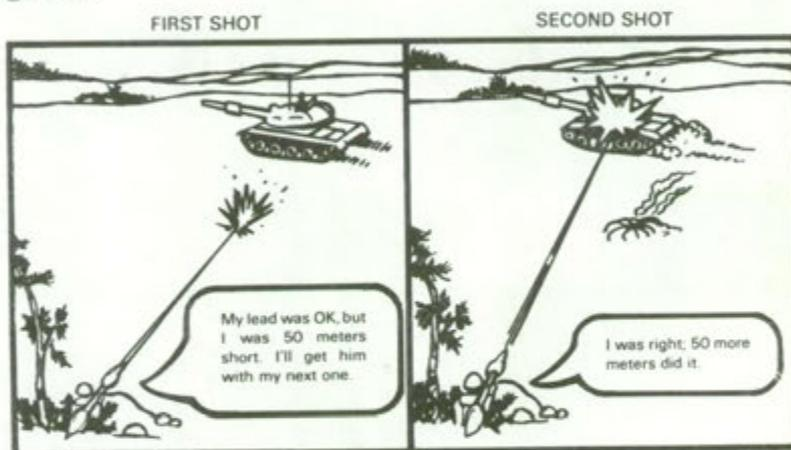

Figure 5.
**b. Sequence firing.** The target is engaged by one individual with two or more LAWs. The two or more LAWs have been extended prior to engaging the target. He observes the impact of his first round and makes adjustments to the range and lead of succeeding rounds until a hit is achieved. The individual will then keep firing until the target is destroyed. See figure 5.